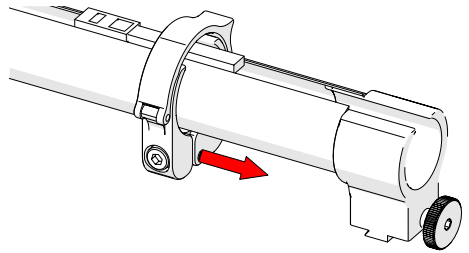

Fig. 85 - Slide clamp onto mount
3. Slide the clamp over the tube and cable management dovetail mount, pinching the tube in between (Fig. 85).